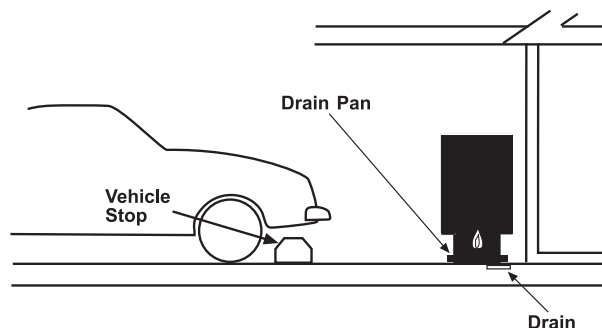

Figure 5. GARAGE INSTALLATION
3. Locate the water heater so it is protected and not subject to physical damage by a moving vehicle. In garage installation avoid damage to your water heater by installing a vehicle stop as shown in Figure 5. Check state and local codes for requirements prior to installation.